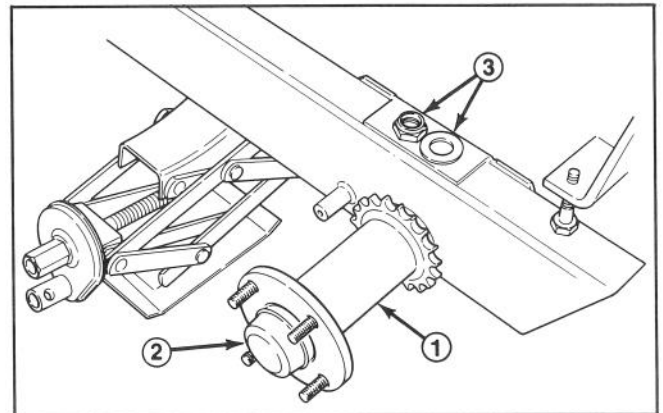

Figure 4
1. Insert wheel spindle shaft through chassis and secure with a 3/4" flat washer and locknut (Fig. 4). Dust cap may have to be removed to hold slotted hex nut when tightening locknut.